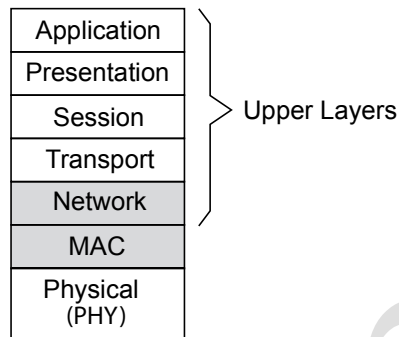

Figure 12: OSI Network Layer Model
In the Protocol Architecture version, the IT900 is accompanied by Yitran's Y-Net protocol firmware. The Y-Net protocol stack firmware implements Media Access Control (MAC) and Network Layer (NL), which are layers 2 and 3 of the seven-layer OSI model highlighted in grey in Figure 12. The following sections provide an overview of the Y-Net protocol stack features and capabilities.